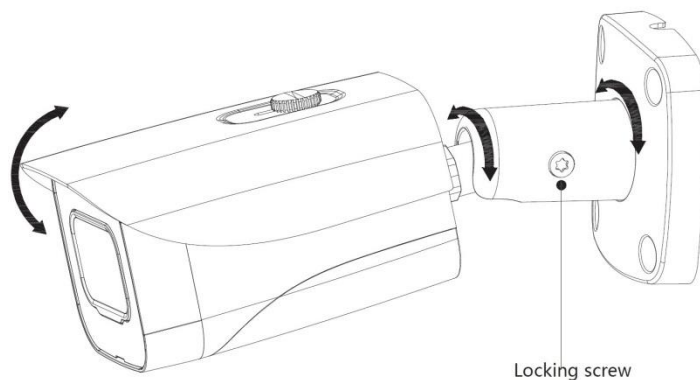

Figure 3-3
Step 1 Drill screw holes (and the cable outlet hole if it needs to go through the mounting surface) on the mounting surface⑤ as indicated on the positioning map.
- For masonry mounting surface, insert expansion bolts④ from the accessory pack in the screw holes.
Step 3 Adjust the location of the bracket③ according to cable outlet requirement (top out or side out), and then pull the cable out through mounting surface or the side cable tray.
Step 4 Align the screw holes on the bracket③ to those on the mounting surface, then put in and fasten the supplied self-tapping screws② to attach the device① to the mounting surface.
Step 5 Connect the camera to power source and the XVR device, and then aim the lens to the ideal angle, see Figure 3-3